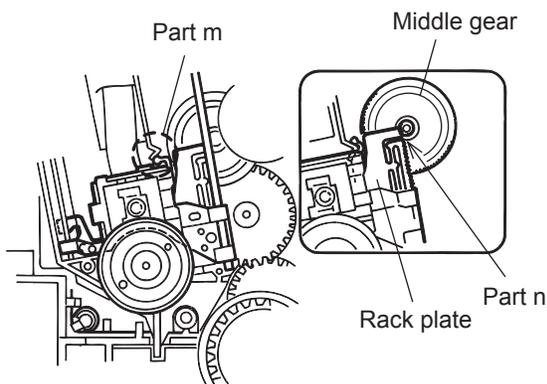

Fig.16
- (1) Fit the P.S. spring and rack plate to the pickup.
- (2) Insert the shaft into the pickup.
- (3) Engage the hook **k** of the pickup assembly with the CH. base assembly first, and set the part **j** of the rack plate in the opening **l** next. Then, reinstall the pickup assembly while shifting it to the T-T side (inward) so that the part **m** of the rack plate is positioned as shown in Fig. 16.
- (4) Move the pickup assembly to the center position and fasten the shaft with the two screws **D**. (Make sure that the part **n** of the rack plate is correctly engaged with the middle gear.)
- (5) After passing the flexible wire coming from the pickup through the opening of the CH. base assembly, connect it to the connector CN601.
### 2.4.8.1 Removing the Insulators (See Fig.16)